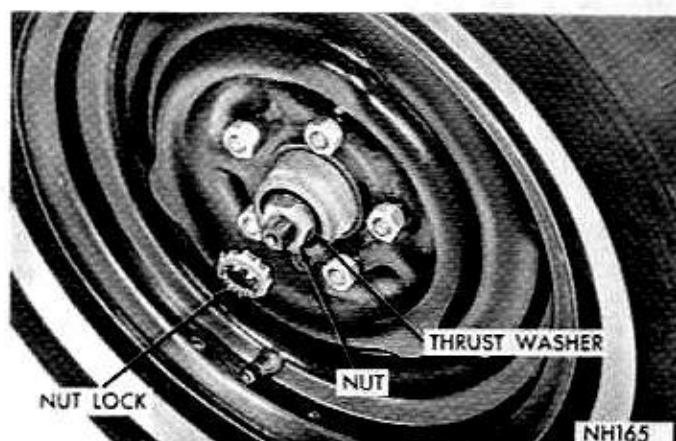

Fig. 10—Front Wheel Bearing Adjustment
(1) Tighten wheel bearing adjusting nut to 90 inch-pounds while rotating wheel.
(2) Position nut lock (Fig. 10) on nut with one pair of slots in line with cotter pin hole.
(3) Back off adjusting nut lock assembly one slot and install cotter pin. **The resulting adjustment should be zero (no preload) to .003 inch end play.**
(4) Clean the grease cap, coat inside with wheel bearing lubricant (do not fill) and install.
(5) Install wheel covers and lower vehicle to floor.